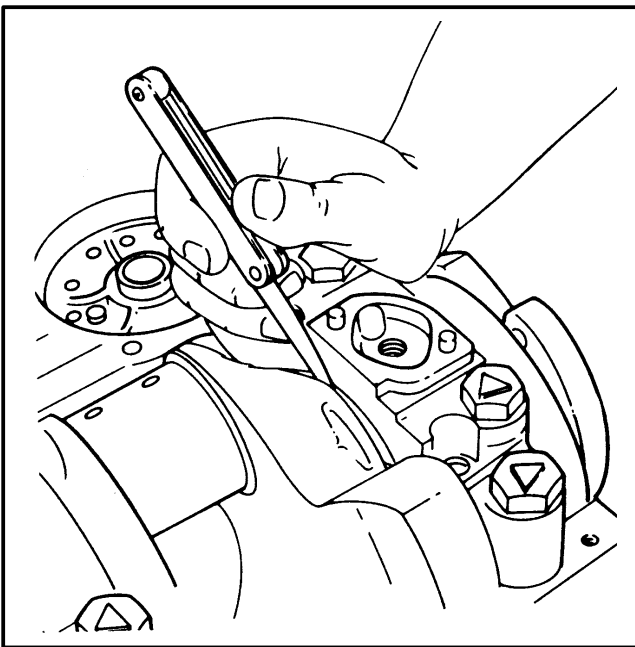

FIGURE 42. MEASURE THE AXIAL CLEARANCE OF THE CRANKSHAFT
10. Check the axial clearance between the rear main bearing and the thrust surface. Push the crankshaft forward. See FIGURE 42. Measure the clearance between the crankshaft and the thrust surface of the rear bearing. The correct clearance is 0.05 to 0.15 mm (0.002 to 0.006 in).
- b. Check the clearance between the rear main bearing and the thrust surface. Push the crankshaft forward. Measure the axial clearance between the crankshaft and the thrust surface of the rear bearing. See FIGURE 42.